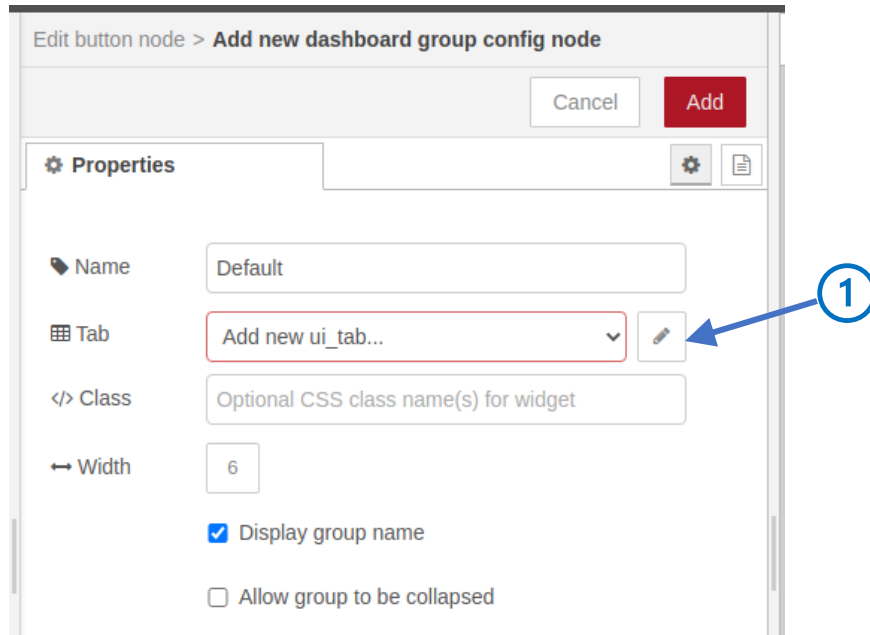

Figure 5-123: Add New Dashboard Group Window
- Click Add ① and you will be returned to the new dashboard group dialog of Figure 5-123.